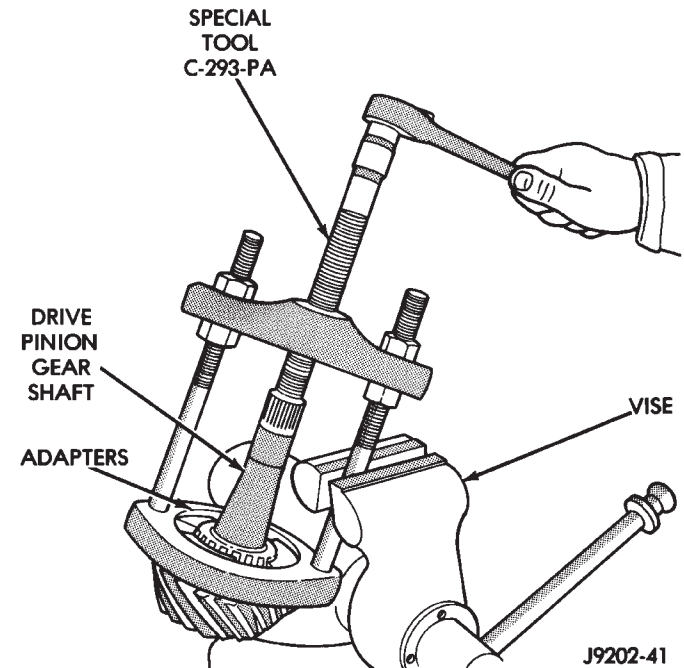

Fig. 14 Inner Bearing Removal
(2) Use Puller C-748 to remove pinion seal and discard seal.
(3) Force pinion gear shaft out the front bearing and remove bearing. **This will damage the front bearing rollers and bearing cup. The front bearing and cup must be replaced.** Discard collapsible spacer.
(4) Remove the front and rear bearing cups.
(5) Remove the rear bearing from the pinion shaft with Puller C-293-PA (J-29721) and Adapter C-293-42 (Fig. 14). Remove and record the pinion depth shims.